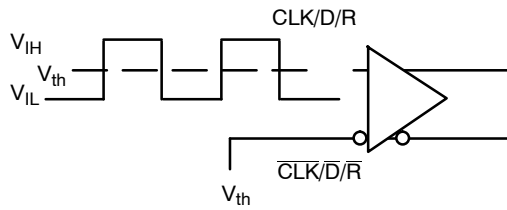

Figure 4. Differential Input Driven Single-Ended
**DIFFERENTIAL INPUT DRIVEN SINGLE-ENDED (Figures 4 & 7)**
| $V_{OUTPP}$              | Output Voltage Amplitude (@ $V_{INPPmin}$ )(Note 10) (See Figure 4)$f_{in} \leq 2.0\text{ GHz}$$f_{in} \leq 3.0\text{ GHz}$$f_{in} \leq 4.0\text{ GHz}$ | 530   | 770 |      | 530  | 780 |      | 530  | 760 |      | mV   |